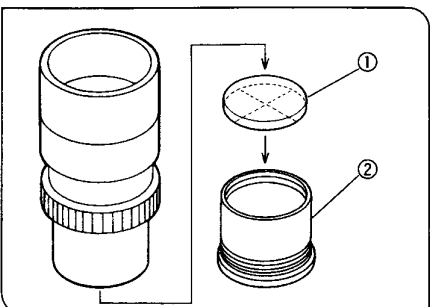

Fig. 20
4 Using Eyepiece Micrometer Discs (Fig. 20)
Use 24 mm diam. × 1.5 mm micrometer discs. Following Fig. 20, unscrew the micrometer mounting frame ② from the eyepiece and place a micrometer disc ① into the frame. The engraving on the micrometer disc ① should face downward into the micrometer mounting frame ②.